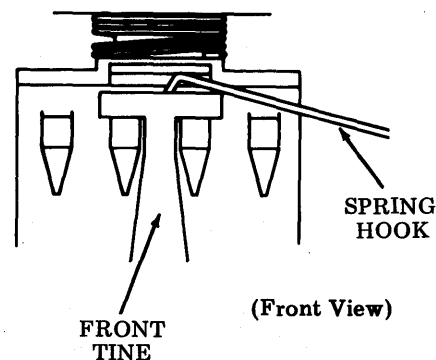

Fig. 9—Front Tine Disengagement
- (3) Continue applying upward pressure to the RETURN key and disengage the front tine from housing using a spring hook. Remove key with housing from channel (Fig. 9).